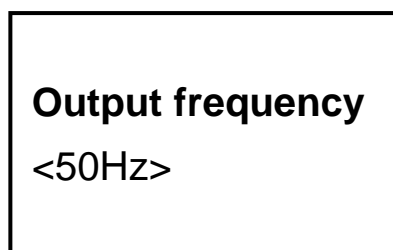

Fig. 4-12
- 1). Press  button or  button to choose “**Output frequency**” (Fig. 4-12). Press button  and the cursor will flash on “<50Hz>”.